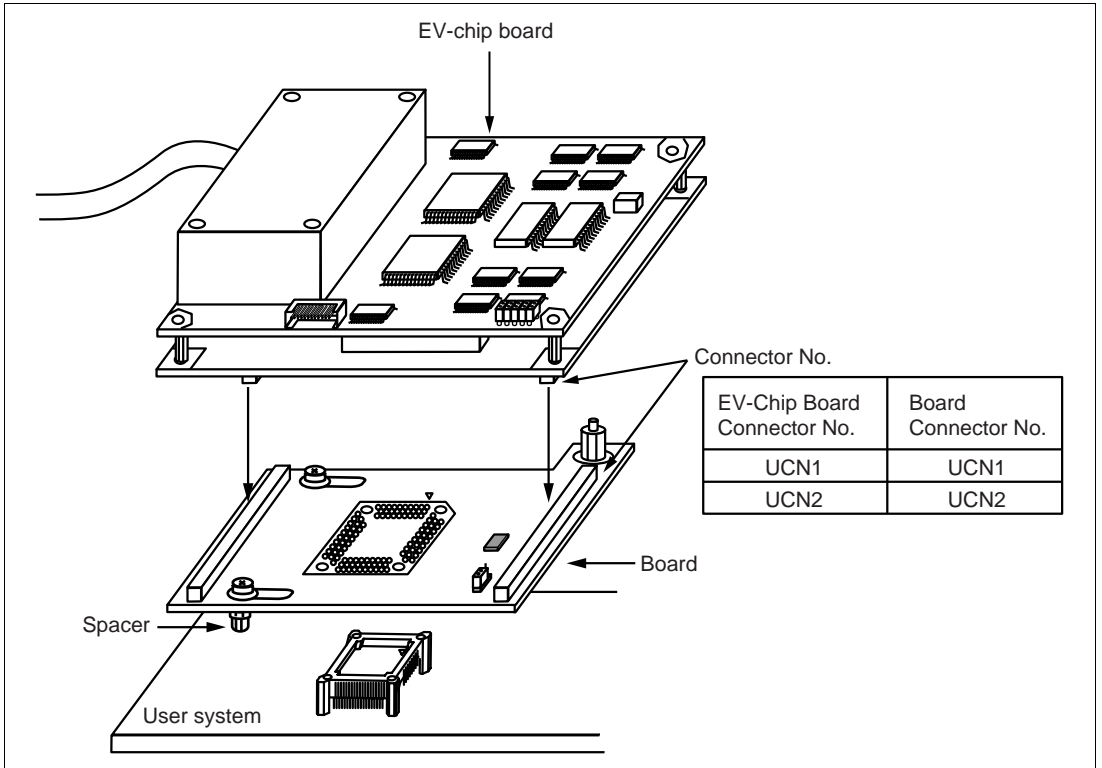

Figure 7 Connecting User System Interface Board to EV-Chip Board
2. Align the connectors on the board with those on the EV-chip board according to their numbers (figure 7).